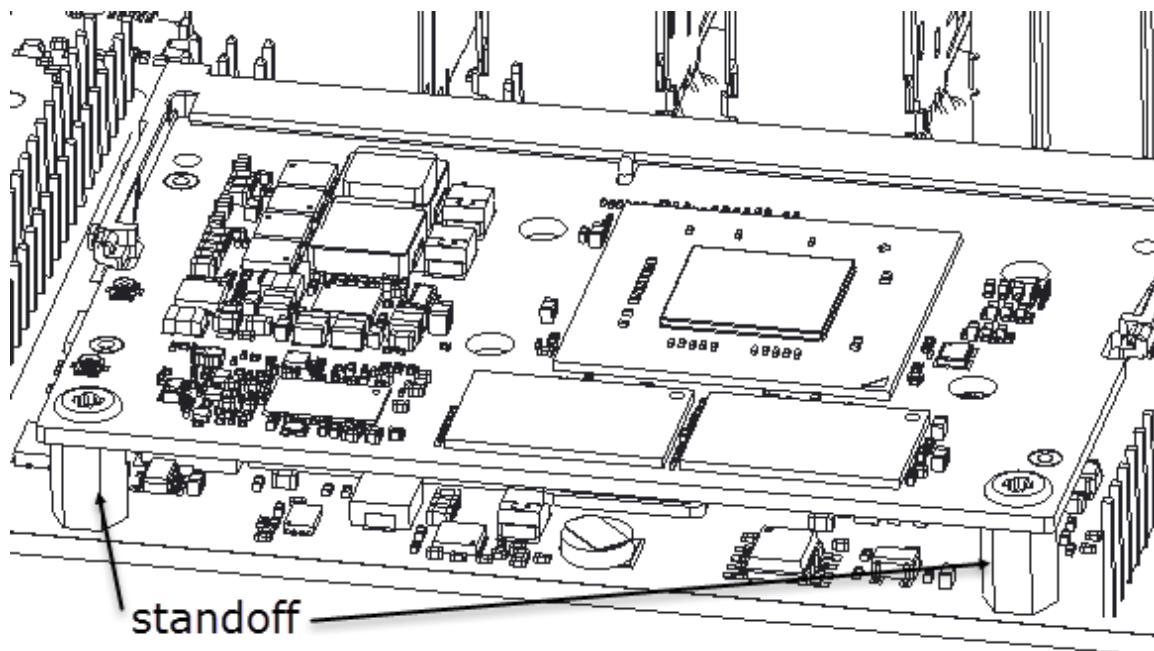

Figure 3-6. Jetson Nano System Assembly Example on System Board
Orientation of the unit is to be aligned with the connector and secured to the baseboard as shown in Figure 3-6. Suggested hardware for mounting the module to the baseboard is use of standoff between the two board, anchored with screw on each board.
- d) Secure the Jetson Nano module to the baseboard with screws onto the standoff/spacer. Figure 3-6 shows use of two standoff and screws to secure the module to the system/base- board.